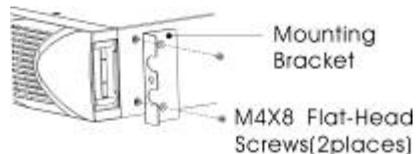

Figure6 Installing the Mounting Brackets
9. Align the mounting brackets with the screw holes on each side of the UPS and secure with the supplied M4×8 flat-head screws(see Figure 6)